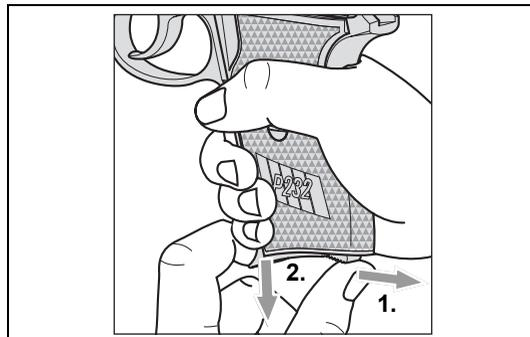

Fig. 2. Removing the magazine
1. Remove the empty magazine (see Fig. 2).
3. Press magazine catch **43** down and remove magazine (see Fig. 2).
2. Press magazine catch **43** down and remove magazine (see Fig. 2).